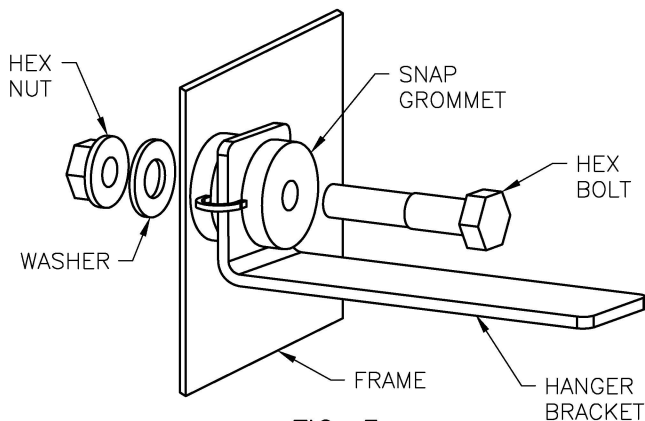

FIG. 3
Step 2: Begin installation of the new system by fitting the new mufflers, tailpipes and Tru-X crossover assembly into place for a mock-up fitment, as shown to the left. This will help to determine where to drill the frame or floorboards for the muffler and tailpipe mounting brackets as shown in Figures 1 & 3, if the OEM mounting points will not work. Sheet metal screws are supplied to be used in place of the hex-head bolts if required. Use a 1/2" drill bit for the bolt/nut combo, or use a 5/16" drill bit for the tri-lobular sheet metal screws. You should now also be able to determine where to trim and or modify the inlet extension pipes if needed. With the system loosely installed, adjust the components for at least 1/2" clearance, including areas with moving parts (axles, driveshaft, etc.). Once a proper fit for the complete system has been achieved using the supplied clamps, the inlet pipes can be welded to the manifolds or headers. Once the tailpipe brackets are bolted in place as shown in Figure 3, they can be bent and welded to the tailpipes. The supplied turndown tips can be welded to the tailpipe to dump behind the bumper, or the tailpipe extensions can be used with or without the OEM tips to go through the bumper for an original look.